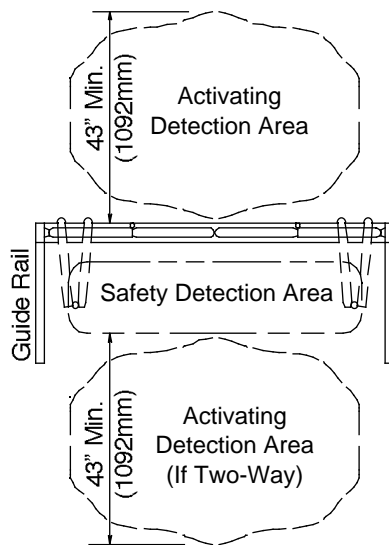

Figure 1
3. Stand in the safety area with door closed, then have someone approach the activating side (see **Figure 1**). It should not open.*